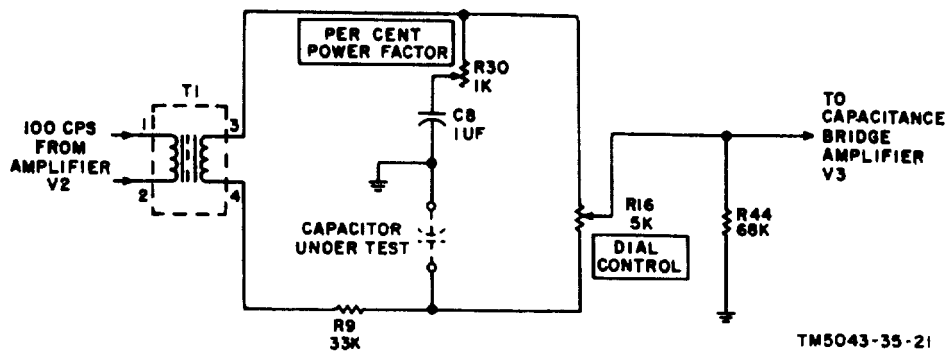

Figure 7. Capacitance bridge, .04 to 30 MF range, simplified schematic diagram.
- (3) .04 to 30 MF range (fig. 7).